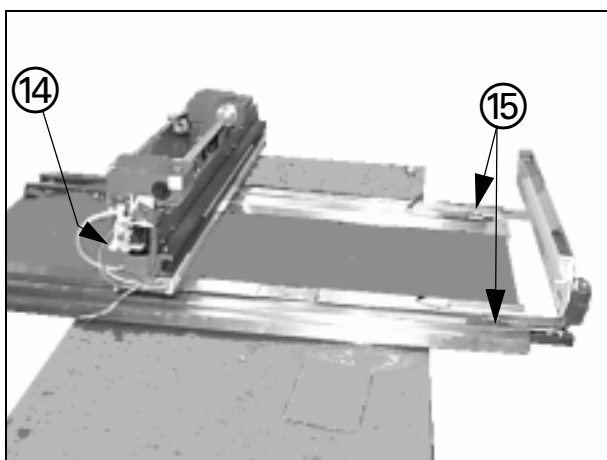

Fig. 13
- Loosen the four screws 6 x 16 mm (14/ Fig.13) and remove the adjustment pins.
- Loosen the rollers facing the gear by removing the three 6 mm Allen screws (15/Fig.13).
- Re-insert the adjustment pins in the gear (Fig.13).